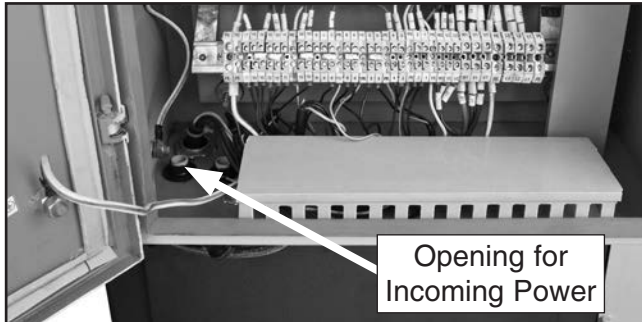

Figure 23. Location of opening in electrical cabinet for incoming power.
2. Insert the incoming power wires through the opening shown in **Figure 23**.